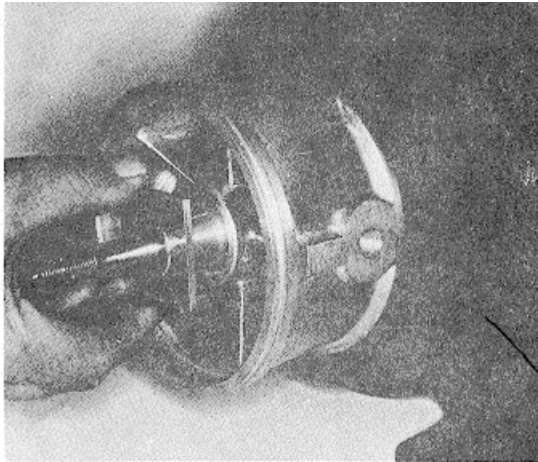

Fig. 10-10, T429. Removing teflon bearing insert and floating bearing from rotor shaft.
7. Remove teflon bearing insert and floating bearing from rotor shaft. Fig. 10-10. Remove "O" ring from bearing housing; discard "O" ring and Teflon bearing insert.